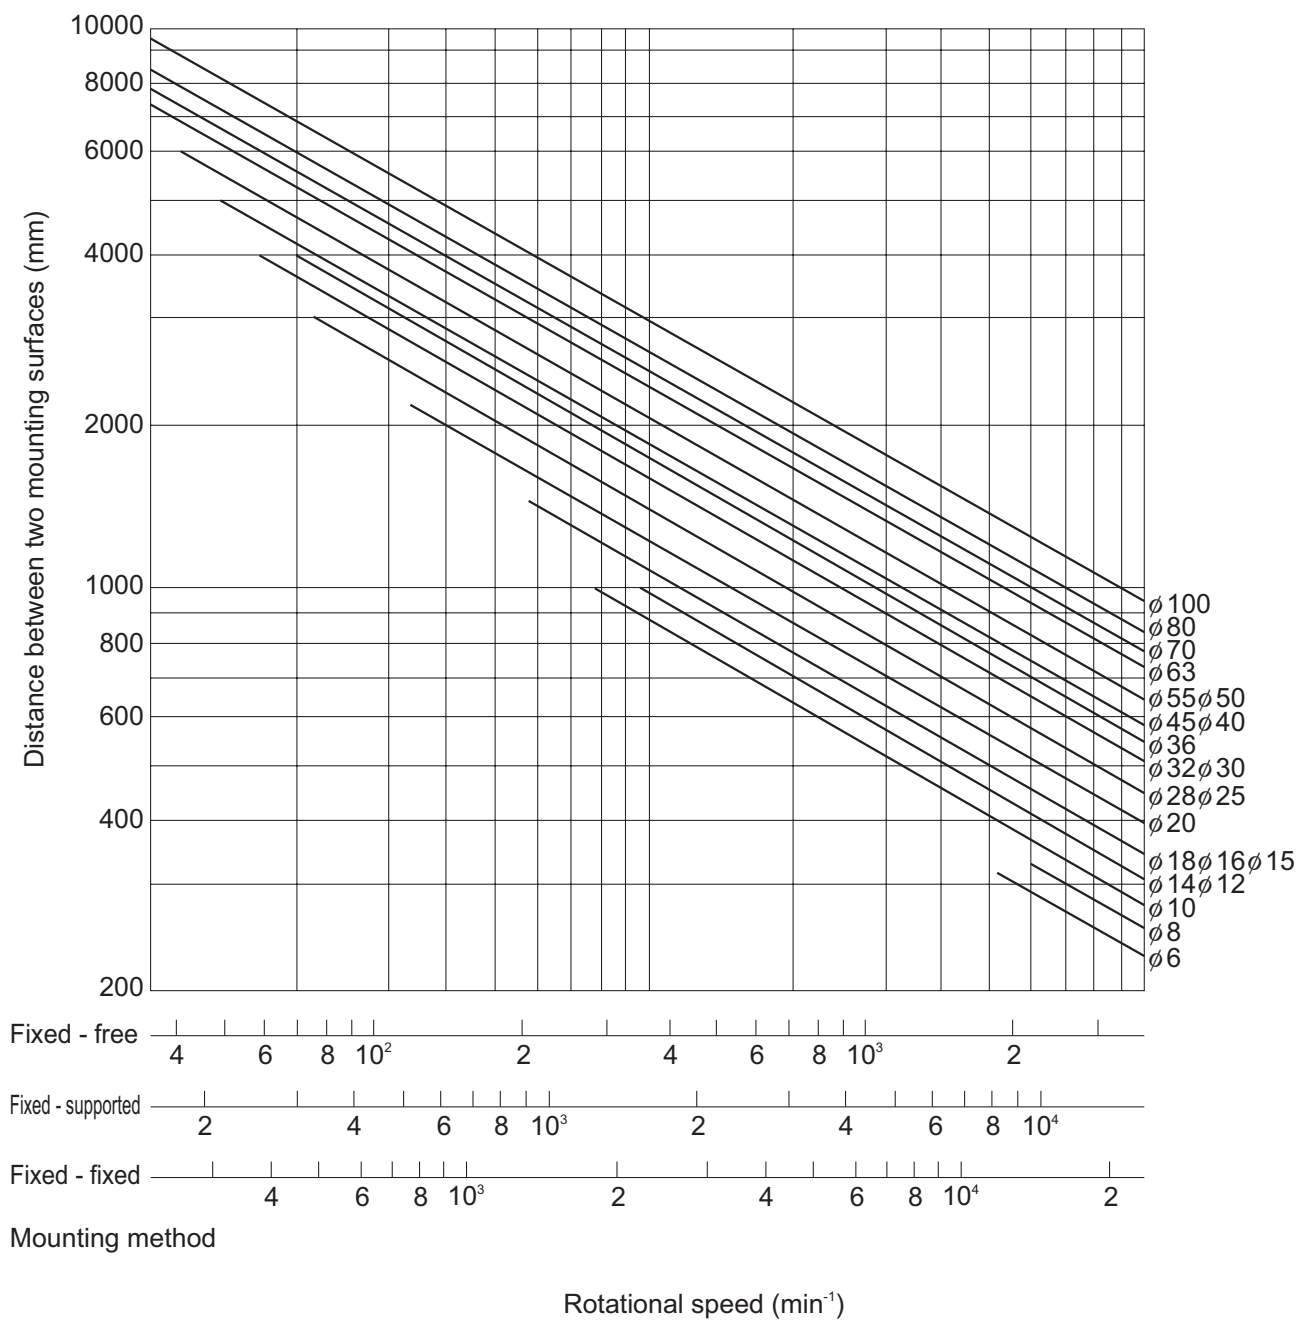

Fig.9 Permissible Rotational Speed Diagram
Fig.9 on A-698 shows the relationship between the screw shaft diameter and a dangerous speed. If determining a dangerous speed by calculation, it can be obtained from the equation (8) below. Note that in this equation, a safety factor of 0.8 is multiplied to the result.